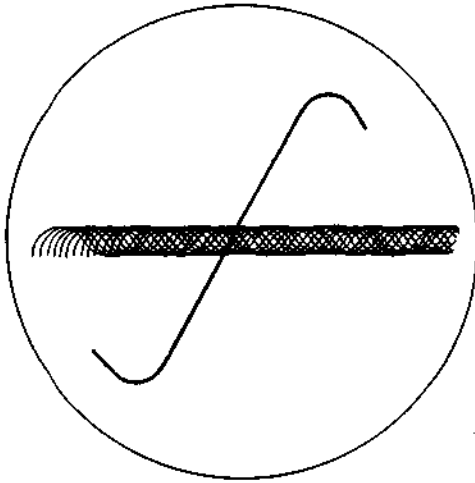

Fig. 8
- (2) Turn the core of the output transformer T_2 on the front end so that the horizontal stripes visible in the center of the waveform in Fig. 8 are maximum in width and are located in the center of the S-shaped curve. At this time, the horizontal stripe width should be symmetrical at about the center line.